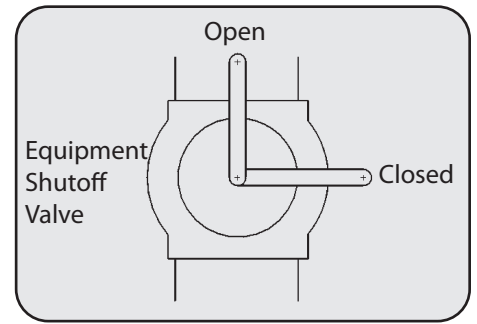

Figure 13
1. The appliance must be isolated from the gas supply piping system by closing its equipment shutoff valve during any pressure testing of the gas supply piping system at test pressures equal to or less than 1/2 psi (3.5 kPa). See Figure 13.
3. Open equipment shutoff valve. See Figure 13.